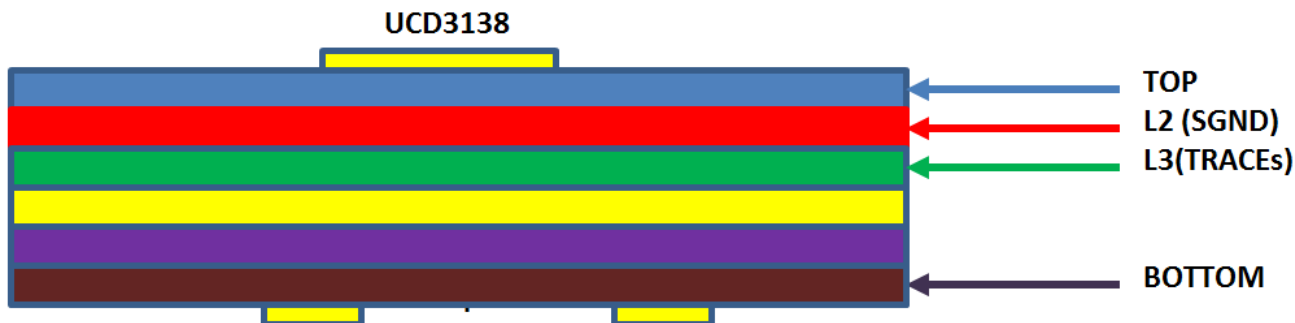

Figure 12-7. Single Ground Plane for a Power Module Design
- In a power module or a tiny PCB design, a single solid plane without the grounding separation is shown in Figure 12-7 and has a single point connection with power RTN or SGND near the connector. Ensure there is no current flow from power train into the signal ground plane.